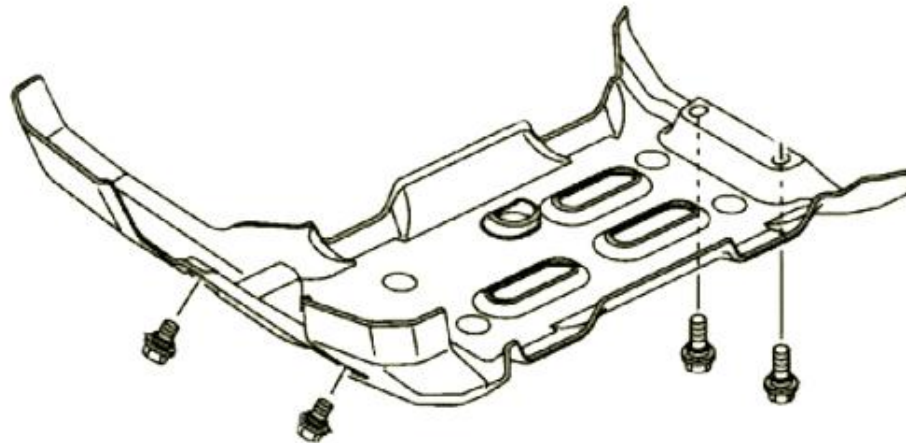

Figure 1
- 1) Remove the four (4) bolts that hold the front plastic brush guard to the frame of the vehicle as shown in Figure 1. Set aside the brush guard.